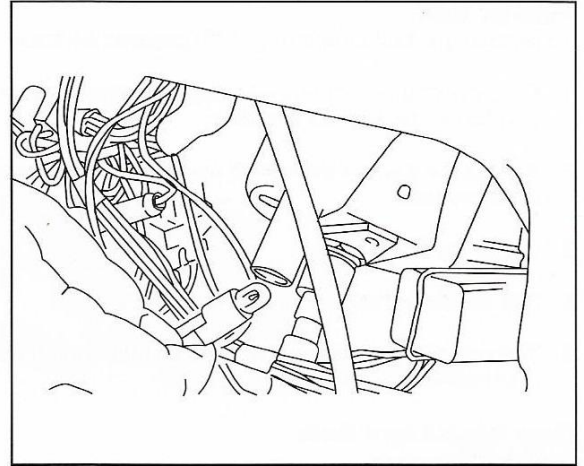

Fig. 120
1. Pull the failed bulb (Fig. 120) and its holder from the instrument, then remove the bulb.